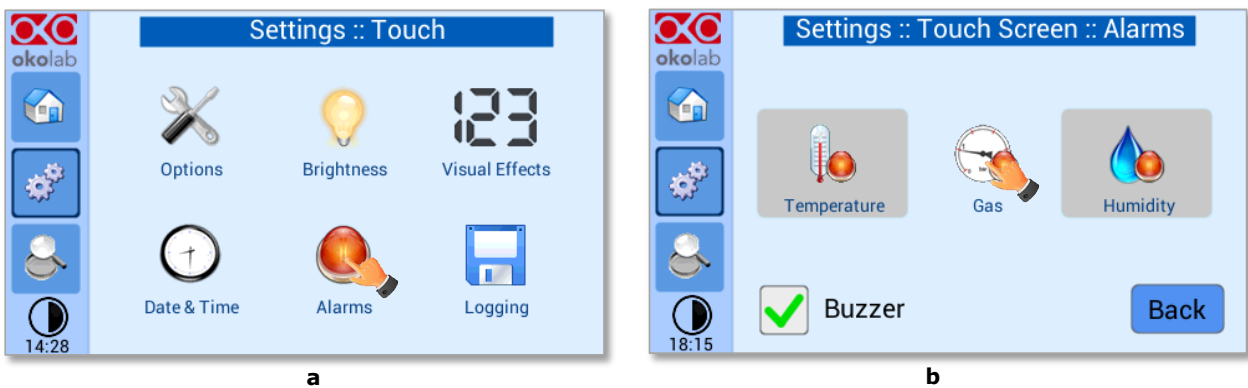

Figure 64. How to enter in Alarms page (a - b).
To set the alarms specifications, press the *Alarms* icon  (see Figure 64 a), then follow the indications below:
1. Click on the Gas icon  to set the gas deviation for a period of time then the system triggers on Alarms, as shown in the Figure 64 b.